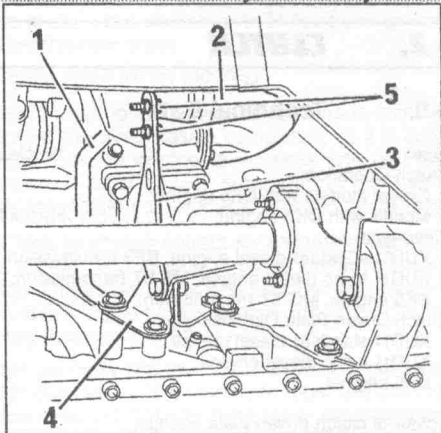

Fig. 1.99. — Removal details for the turbo charger (DK5). The numbers are referred to in the text.
- Refer to Fig. 1.99 for the next
- Fit the turbo charger elbow (2) in Fig. 1.99 with a new seal and tighten to 2.2 kgm (16 ft.lb.).
- Fit the brackets (3) and (4) in Fig. 1.99. Tighten the bolts to 2.5 kgm (18 ft.lb.). The bolts (5) of support bracket (3) are tightened last.